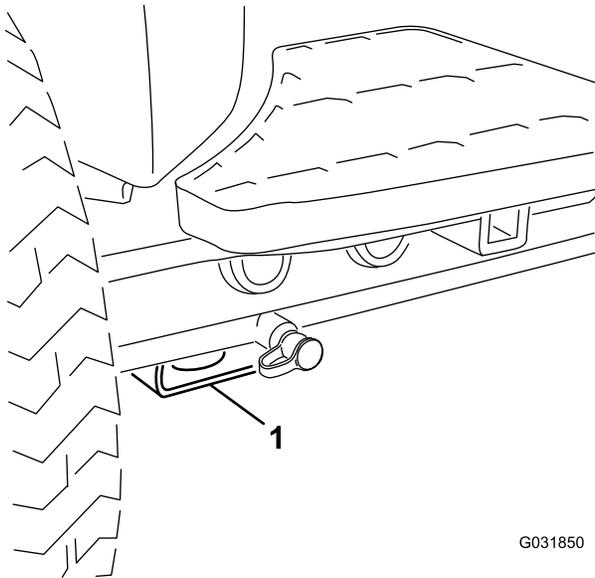

Figure 70
- Front—rectangular pad, under the axle tube, inside each front tire (Figure 70).